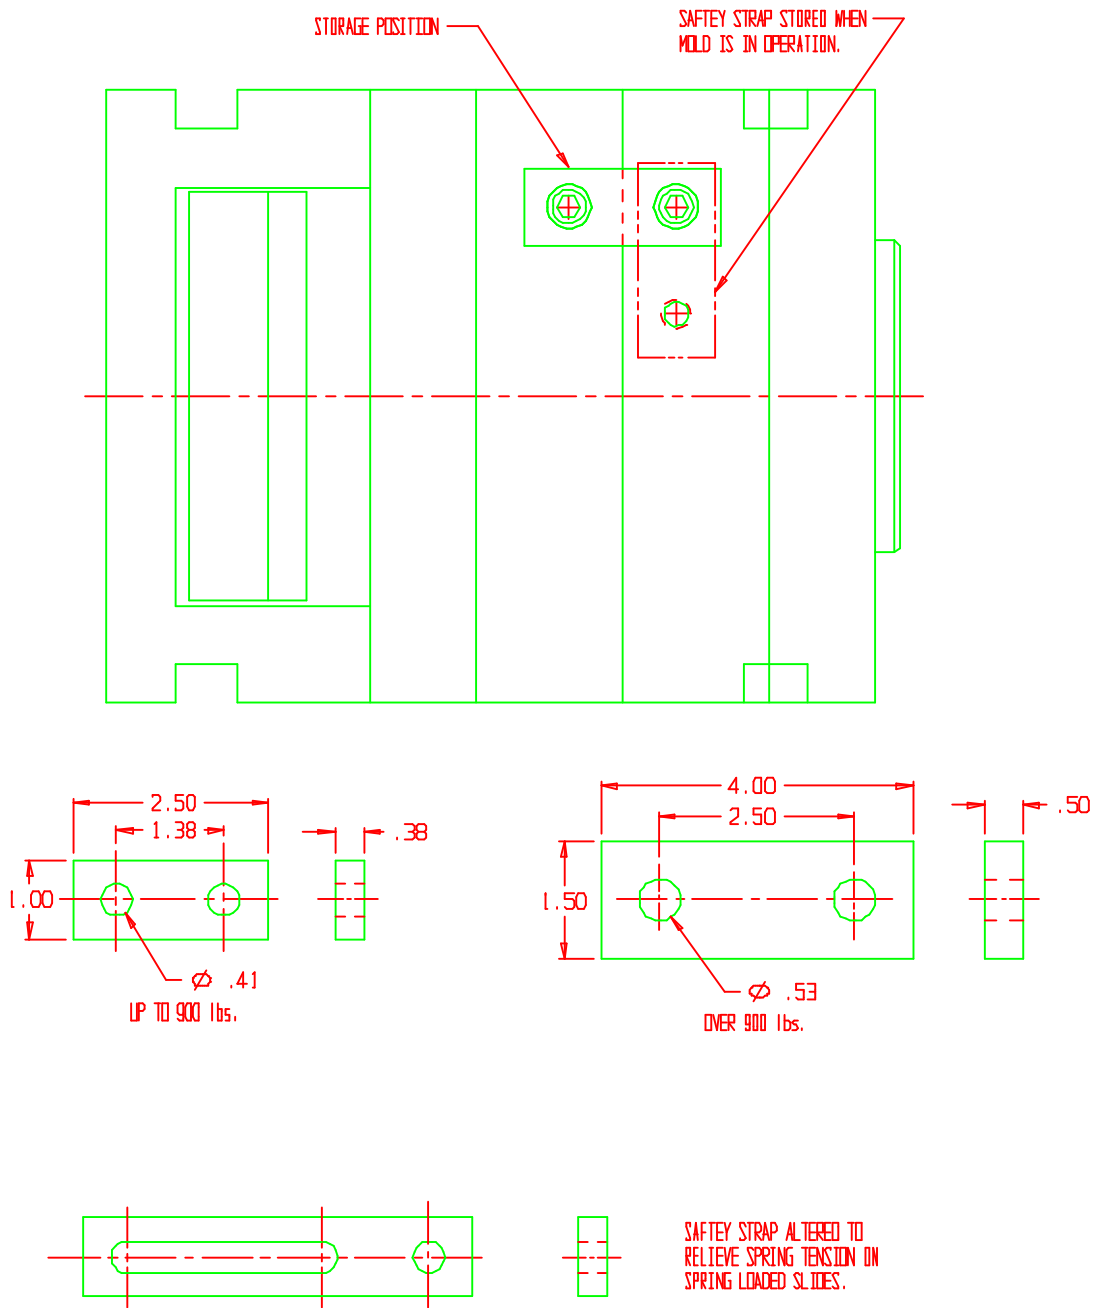

figure 4-1
- 4.1.6 All molds to be supplied with a standard safety strap. Molds with spring loaded slides should have slotted safety strap to relieve the spring tension. One inch of the leader pins must remain engaged with the bushings. See figure 4-1.